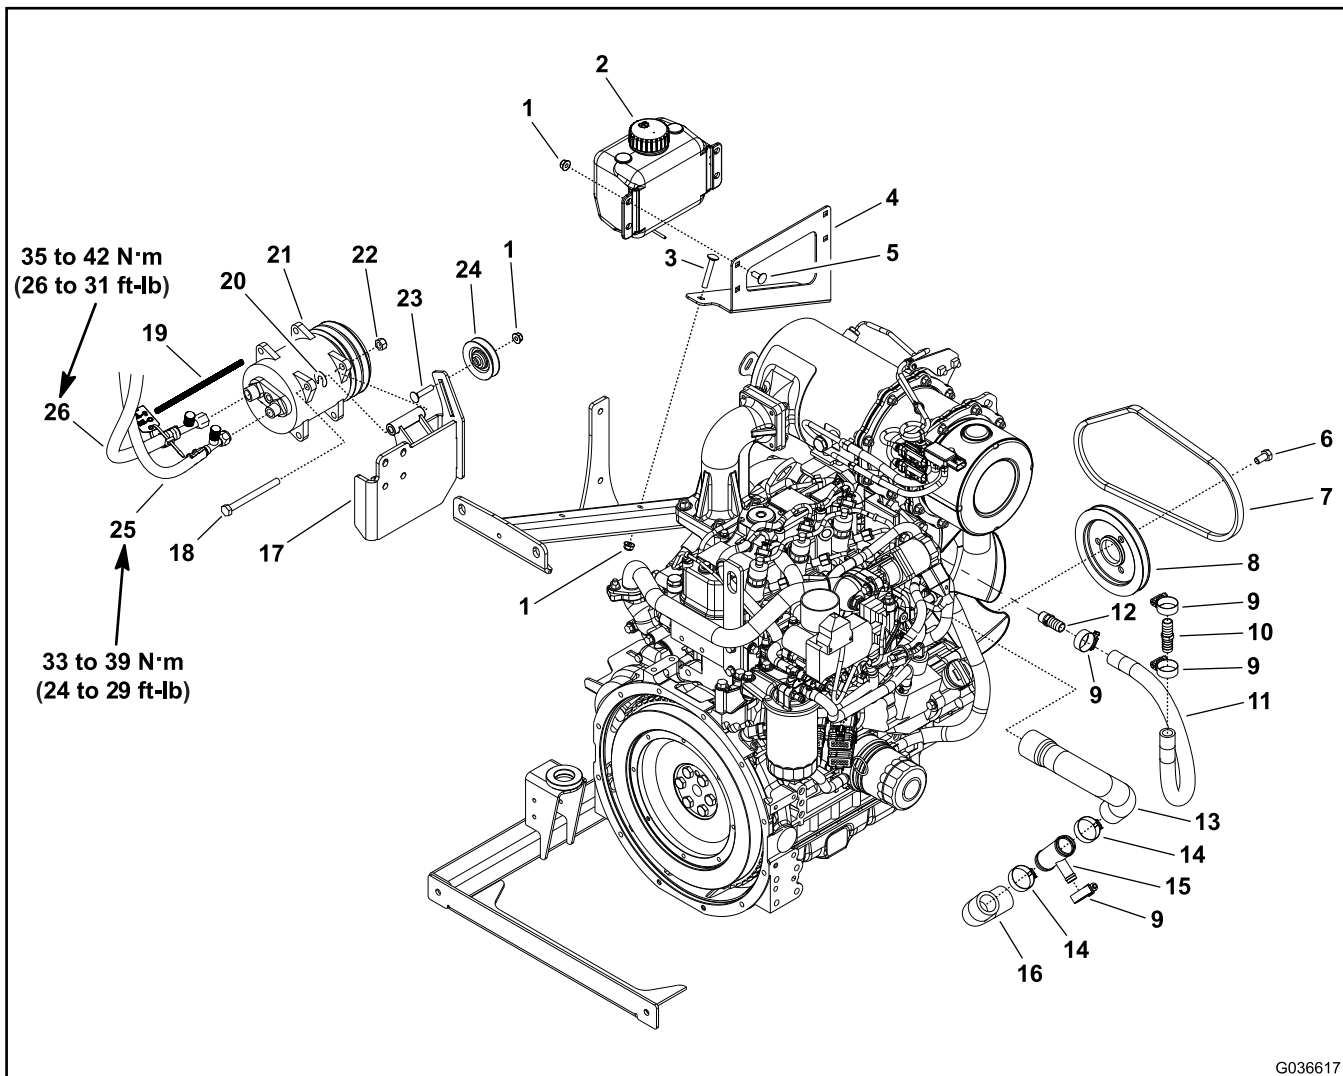

Figure 320
Note: There may be shims (item 20 in Figure 320) mounted between the compressor mounting flanges and compressor bracket. When you remove the compressor, note the location and quantity of the shim for assembly purposes.
11. Note the orientation of the compressor for assembly purposes. Remove the 2 screws (item 18 in Figure 320) and 2 locknuts that secure the compressor to the compressor bracket.
3. Position the compressor with smaller refrigerant port closest to the engine and secure the compressor to the compressor mount with the 2 screws (item 18 in Figure 320) and 2 locknuts.
6. Remove the caps that you placed on the hoses and fittings during the removal process. Use the labels that you attached during removal to correctly attach the hoses to the compressor. Torque the discharge hose fitting (smaller fitting) and suction hose fitting (larger fitting) as shown in Figure 320.